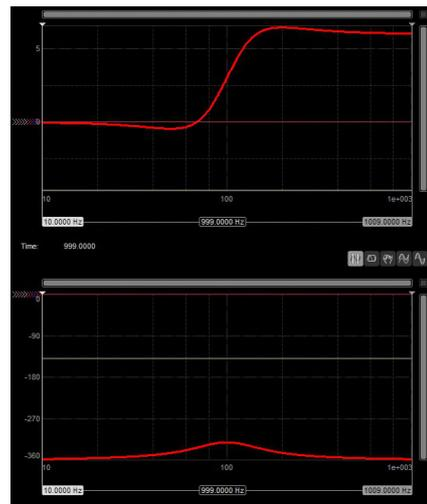
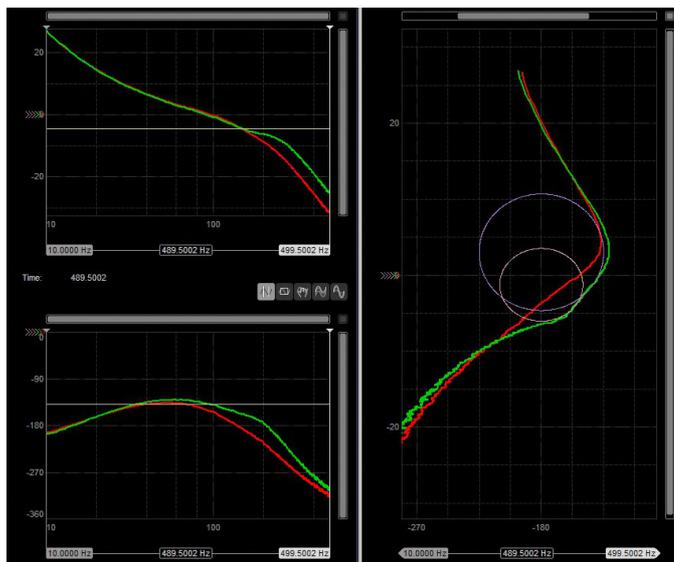

Fig. 63: Low-pass filter 6dB amplification
Fig. 64: Example: low-pass filter with 6dB amplification at 210Hz
The gain can be configured at up to approx. 6dB with a quality factor (Q) of between 0.9 and 1.1. Also see fig. 63 and fig. 64 in section 11.7.